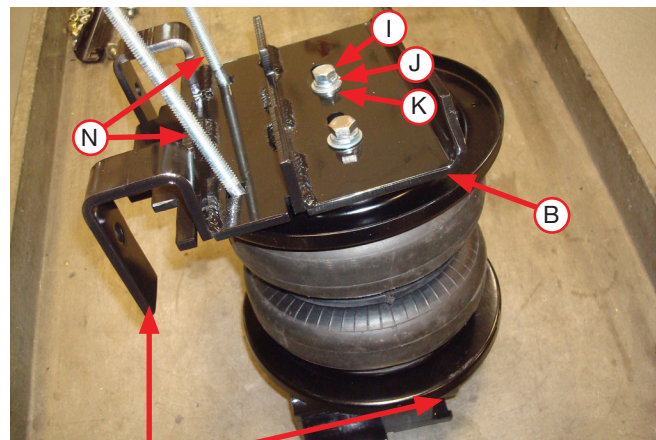

Fig. 7
3. Flip the assemblies over and adjust the roll plates' position for mounting hole access. Insert two 3/8" carriage bolts (N) down through the top of the lower bracket (B) as shown (Fig. 7). Install the lower bracket onto the assemblies, making sure the flange on the lower bracket is opposite of the fitting on top of the air spring. Attach with 3/8" hex-head cap screws (I), lock washers (J) and flat washers (K). Tighten hardware finger-tight only.